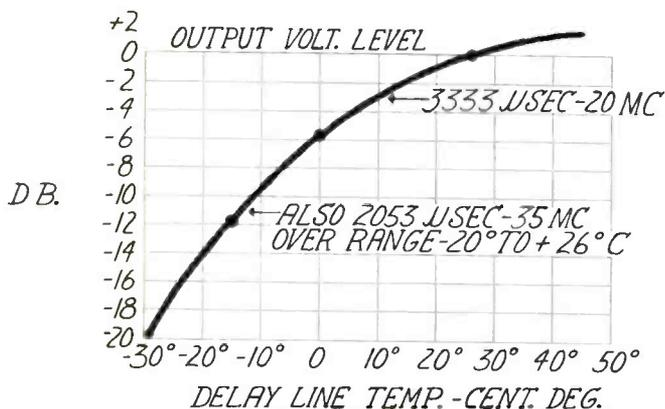

Fig. 4: Voltage attenuation increases with decrease in temp.
**Voltage attenuation**—increases with a decrease in temperature. Fig. 4 shows voltage attenuation vs. temperature for a 3333  $\mu$ sec.  $-20$  MC delay line. This curve also applies for a 2053  $\mu$ sec.  $-20$  MC delay line.